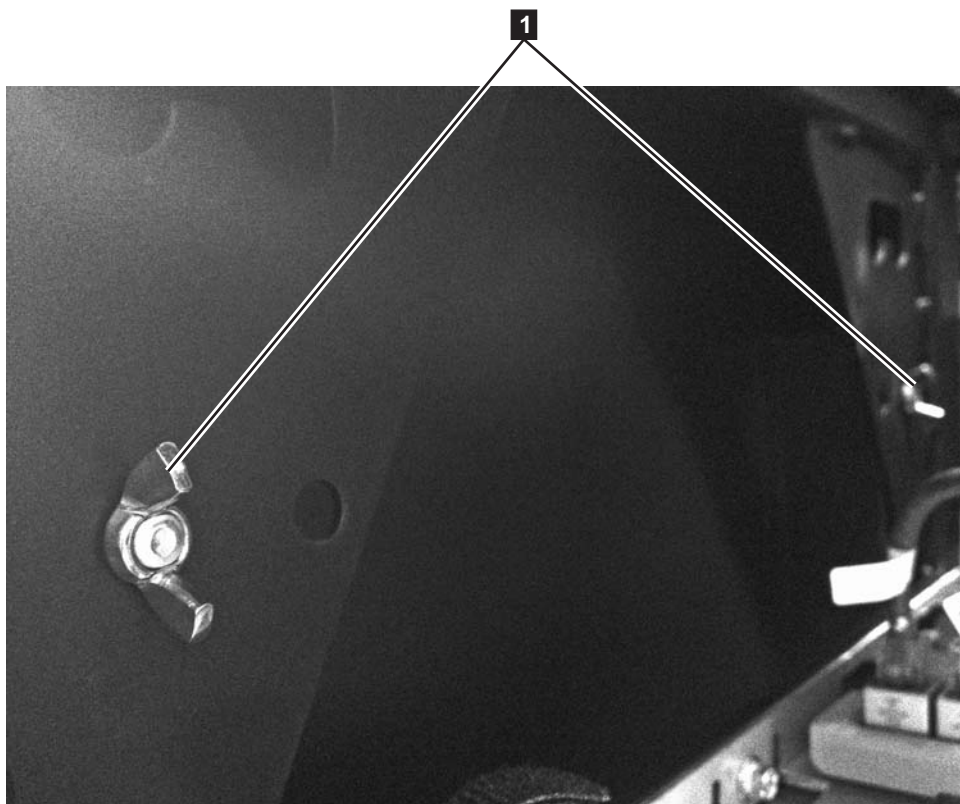

Figure 4. Wing screws securing the side panel
- 6. From the inside of the frame, locate and remove the two M6 x 20 wing screws (**1** in Figure 4 on page 16) that secure the side panel to the frame.